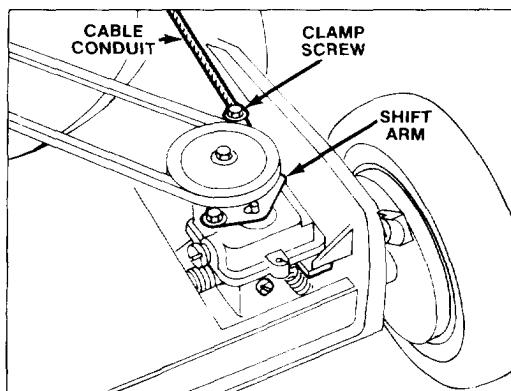

Figure 18
3. **ADJUSTMENT** (Fig. 18) — Loosen cable clamp screw until cable conduit slides. Move handle-mounted wheel drive control to **DIS-ENGAGE** detent. Move shift arm toward clamp screw and hold in place. Pull cable conduit to remove slack and tighten clamp screw.